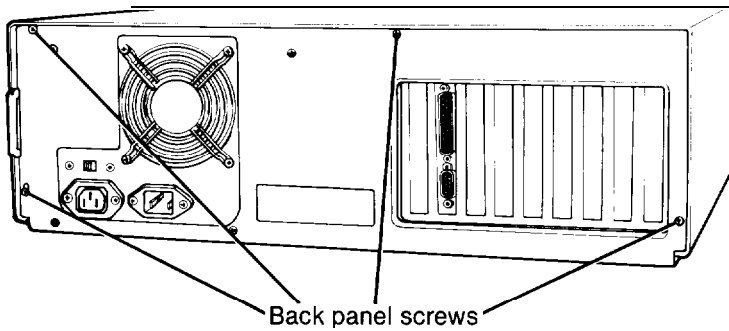

Figure 4-1. Back panel screws
3. As shown in Figure 4-1, the top cover is secured by four screws on the back panel. Remove the screws and put them all safely to one side. They are small so be careful when you take them out.